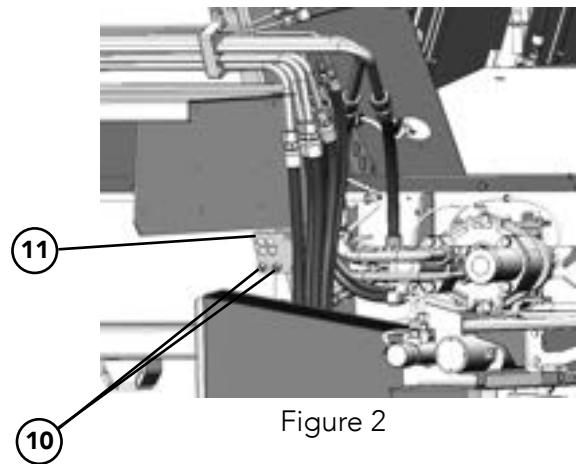

Figure 2
- 5. Figure 2 - Remove the Grease Lines (10) from Bracket (11).